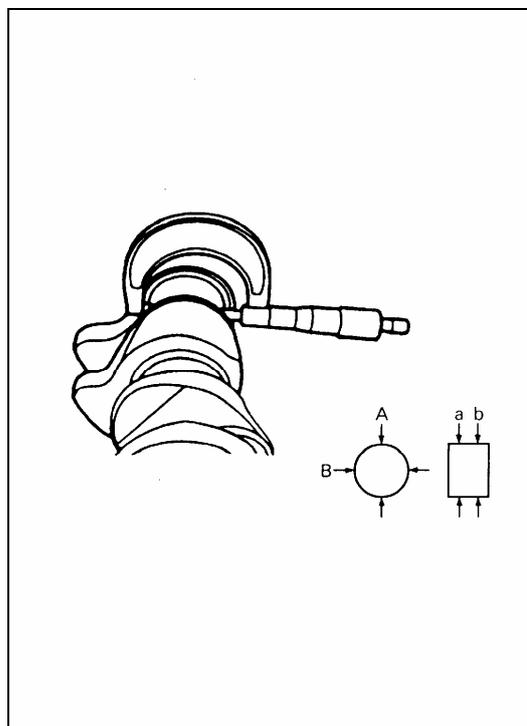

fig. 4-178
1) As fig. 4-178, check wear and damage of crank pin. Measure cylindricity or conicity of crank pin with micrometer . If crank pin is damaged、cylindricity or conicity are out of limit ,replace crankshaft. Check crank pin and Connecting rod big end diameter.